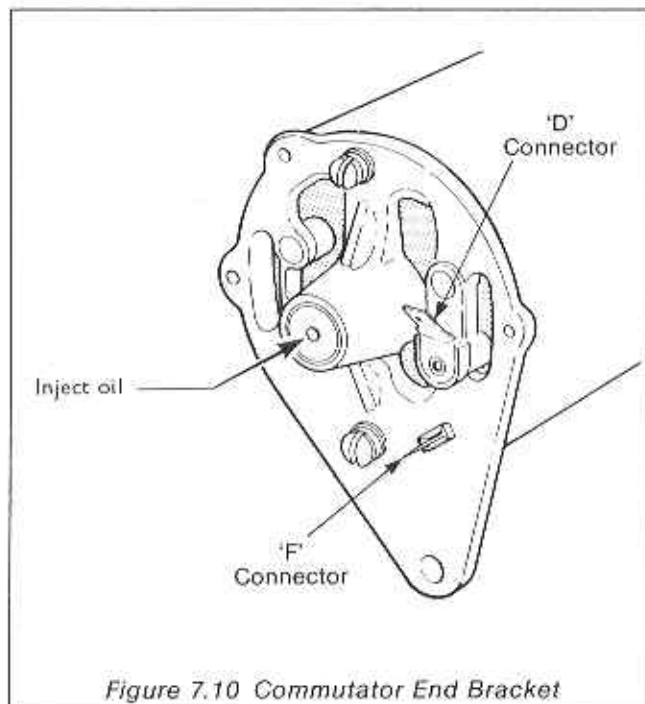

Figure 7.10 Commutator End Bracket
Polarisation (Figure 7.10)
7.26 The armature shaft bearings consist of a ball bearing at the drive end and a bearing bush at the commutator end. The ball bearing is packed with grease which provides adequate lubrication until a major overhaul of the dynamo is required. The bearing bush, however needs lubrication every 6 months or 700 running hours. To lubricate the bearing use a force-feed oil can and inject a small quantity of clean engine lubricating oil in the hole marked OIL on the end-face of the bearing bush housing of the commutator-end bracket as shown in Figure 7.10.
- (1) Disconnect the 'D' and 'F' leads at the commutator end bracket (Figure 7.10).
- (2) Connect a voltmeter between 'D' terminal and earth.
- (3) Run the engine and check that the voltmeter reads 1.5V to 3.0V.